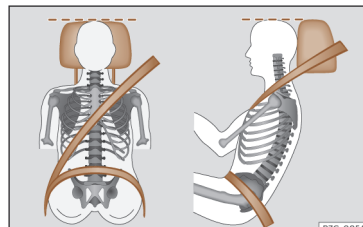

Fig. 14 Correct belt web and headrest positions
- Adjust the headrest¹⁾ so that its upper edge is at the same level as the top of your head, or as close as possible to the same level as the top of your head and under no circumstances below eye level. Keep the back of your neck as close as possible to the headrest»» Fig. 14 .